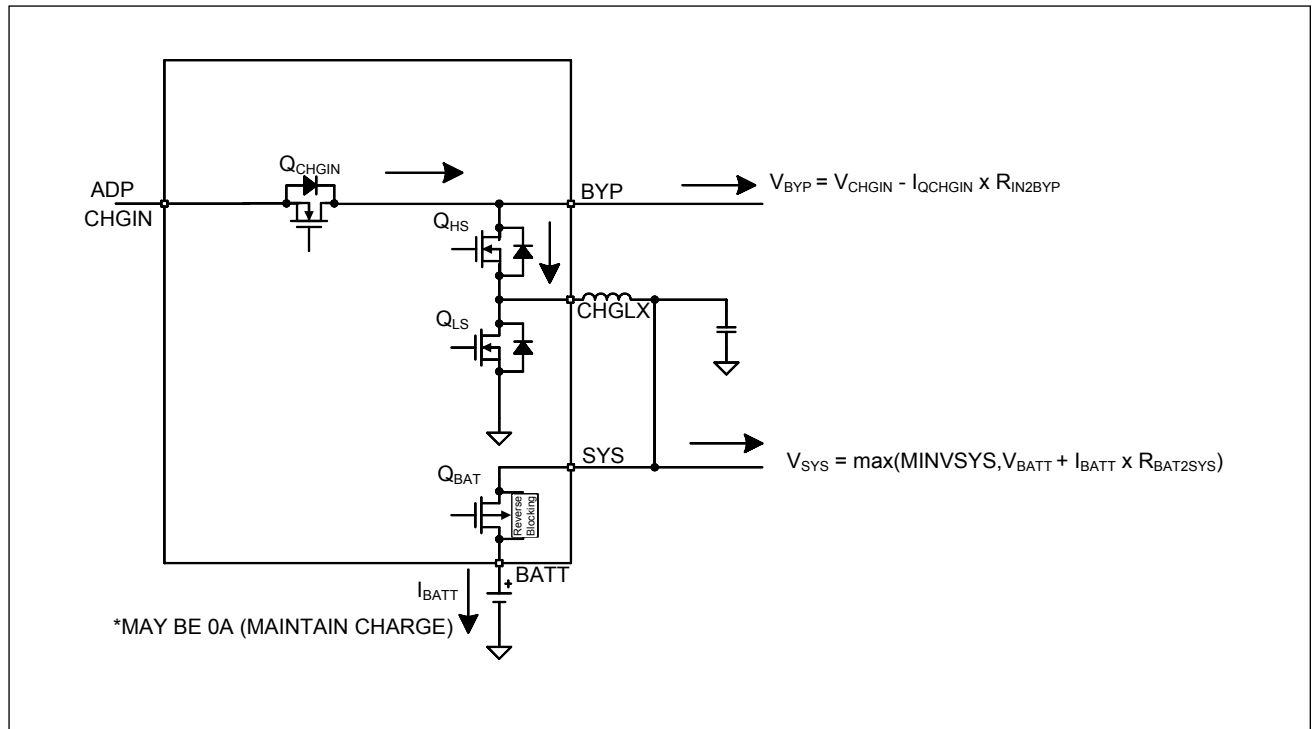

Figure 9. Charge-Buck
- 6. CHARGE-BUCK, MODE = 0x0D: Adapter is detected within the input voltage operating range ( $Q_{CHGIN} = \text{on}$ ). Battery is connected in charge mode ( $Q_{BAT} = \text{on}$ ) and charger is operating in buck mode, see Figure 9.